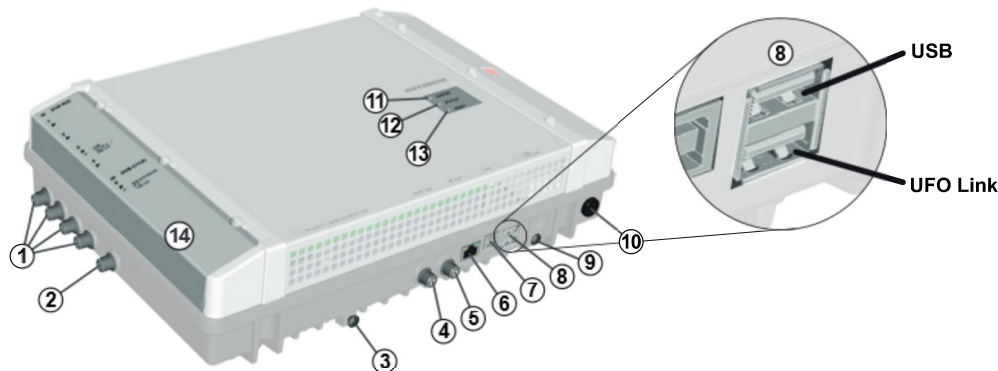

Fig. 1: Device elements
- Do not open the casing and do not modify the device. Otherwise the guarantee and warranty will become void. Exception: Cover of the CI slots (14 in Fig. 1, P. 3)
1. Connect a potential equalisation wire (Cu, $\geq 4 \text{ mm}^2$) to the earthing screw; see ④ in Fig. 1, P. 3.
- The plugs must be inserted into the master and slave at the appropriate UFO link interface ports (③ in Fig. 1).